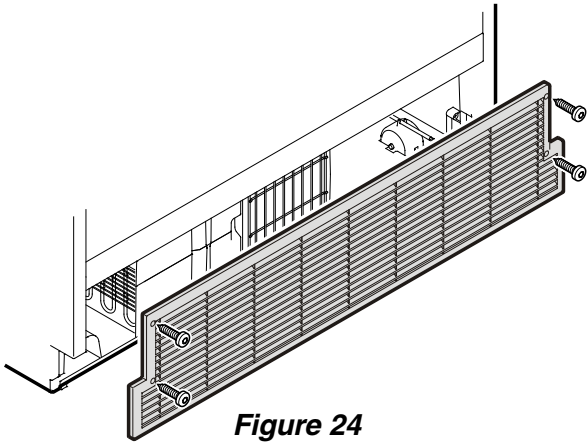

Figure 24
- Open the bottom freezer drawer and unscrew the ventilation grille **Figure 24**.